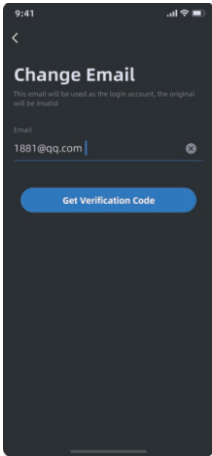

Figure 6
6) Figure 6: When modifying an email/phone number, enter the new email/phone number and click "**Get Verification Code**" to enter the verification code input page.